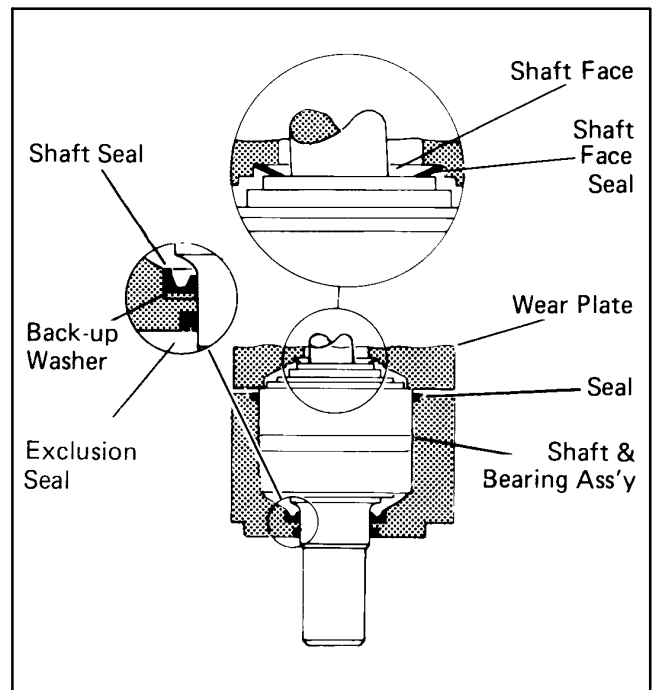

Figure 81
21. Use a press to install exclusion seal in outer bore of bearing housing. Lip of seal must face outward. See Fig. 81. If a press is not available use a plastic or rubber hammer, being careful not to damage or cock seal in the bore.
27. Install the shaft face seal in the wear plate as shown in Fig. 81. Do not distort seal.
28. Install the wear plate, see Fig. 81.
35. Install 2 springs and 2 pins in the holes located in the bore of the valve housing, as shown in Fig. 81.